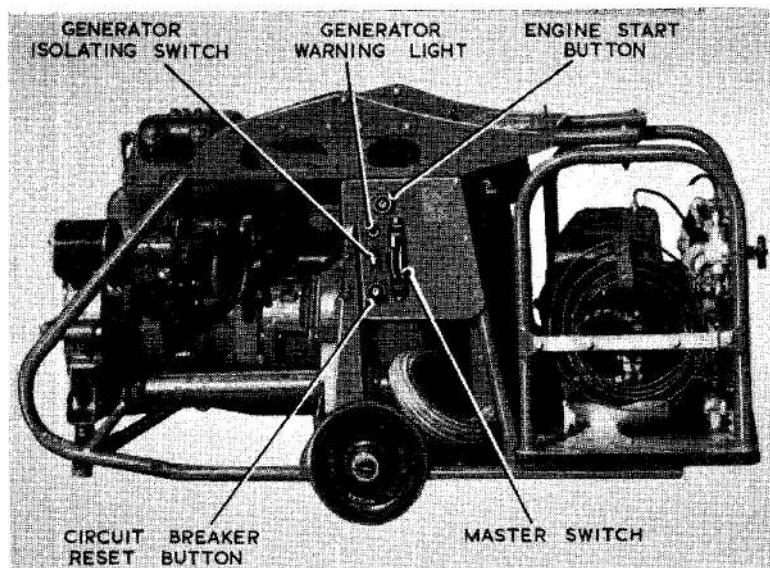

Fig. 4. Switch panel
10. A Type D1/B circuit breaker operating in conjunction with a Type A differential cut-out is used to make and break the connection between the positive line of the Type P3 generator and the master switch Type C, which is located on the side of the unit (*fig. 4*). Generator overload protec-
- (3) (a) Connect starting cable between the aircraft 28V N.A.T.O. plug and the auxiliary power plant N.A.T.O. plug.
- (c) Close the engine choke and press the starter button (*fig. 4*).